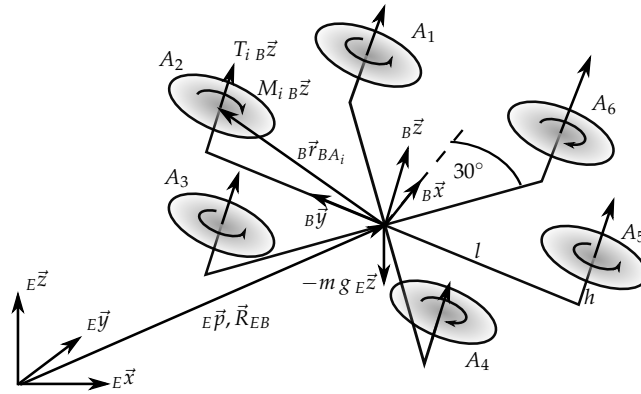

Figure 1: Hexacopter model.
In this exercise, the full dynamic model of a hexacopter has to be derived assuming that the vehicle is a rigid body. The dynamic model has to be represented as a set of ordinary differential equations. The hexacopter structure is shown in Figure 1 including forces and torques acting on the vehicle and inertial and body frames.
2. From Figure 1 write the linear mapping between the square of rotors angular velocity $\omega_{p,i}^2$ and the total forces and torques acting on the platform. i.e. find the so called *allocation matrix* \mathbf{A} in the following relation: